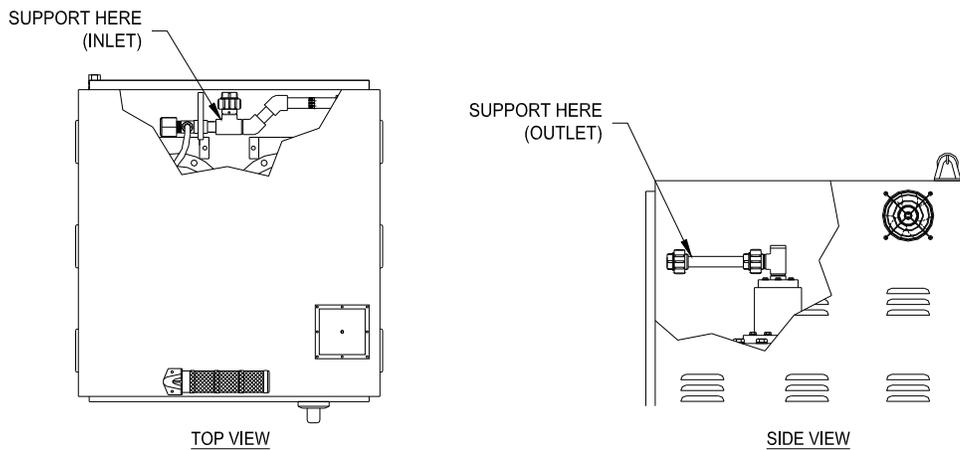

Figure 11: Support Internal Piping when Connecting Plumbing (2-column unit shown)
- 1) Remove the access panel(s) from the rear of the unit, exposing the internal plumbing and heater column(s). The inlet plumbing will be located just below the bottom of the access panel, and the outlet plumbing will be located just above the access panel (See figure 11).